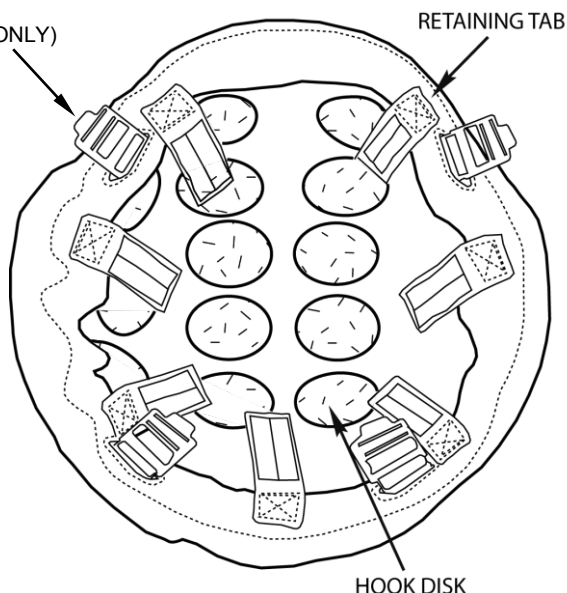

Figure 4. Helmet Cover Installed
- a. For H-back retention systems, thread each buckle through the corresponding buttonhole in the cover. Then pull the cover retaining tabs down and attach tabs to hook disks inside helmet shell (Figure 4).
- b. For improved H-nape retention systems, pull the cover retaining tabs down and attach tabs to hook disks inside helmet shell (Figure 4).